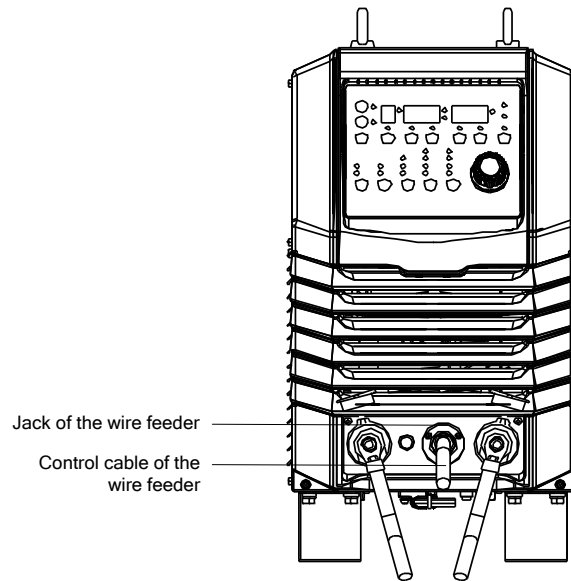

Figure 2-4 Schematic diagram of connecting the 7-core jack of the wire feeder to the 7-core control cable of the wire feeder
3. Figure 2-4 shows the cable connections.